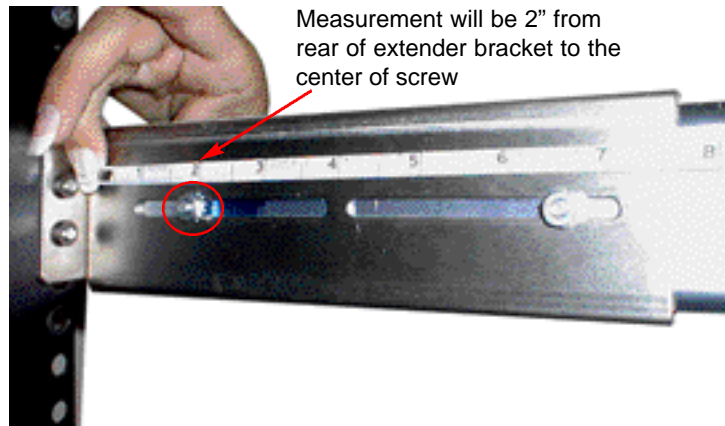

Figure 14 - Measurement for Final Slide Rail Placement
- f. Before tightening down the slide rails to the extender brackets, you will measure the distance from the end of the rear of each extender bracket to the first screw. The measurement will be 2". (see Figure 14). Tighten down all screws extending out the extender brackets.